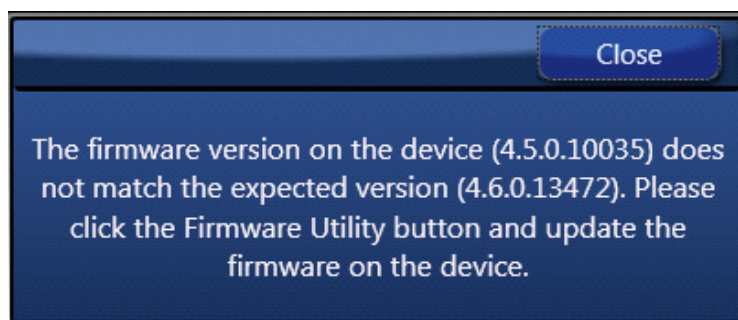

Figure 13. Firmware Version Mismatch Warning Message
7. If ClockMatrix device's firmware, or firmware loaded from EEPROM, has a different version from that in the Personality file, a firmware version mismatch warning message will appear (see Figure 13). Click "Close" button to close the message window and a connection is made.